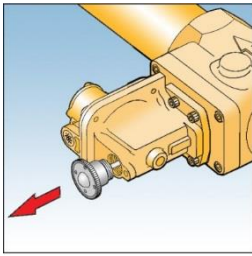

Fig. 5
4. If safety shut-off device is fitted unscrew reset spindle end cap and firmly pull. Hold in this position until the outlet pipework is fully pressurized, then release reset spindle end cap gently. See Fig. 5.
11. If safety device fitted, re-cock by unscrewing reset spindle end cap and pulling firmly. Hold in this position until the outlet pipework is fully pressurised, then release reset spindle end cap gently. Re-screw reset spindle end cap into body. See Fig. 5.